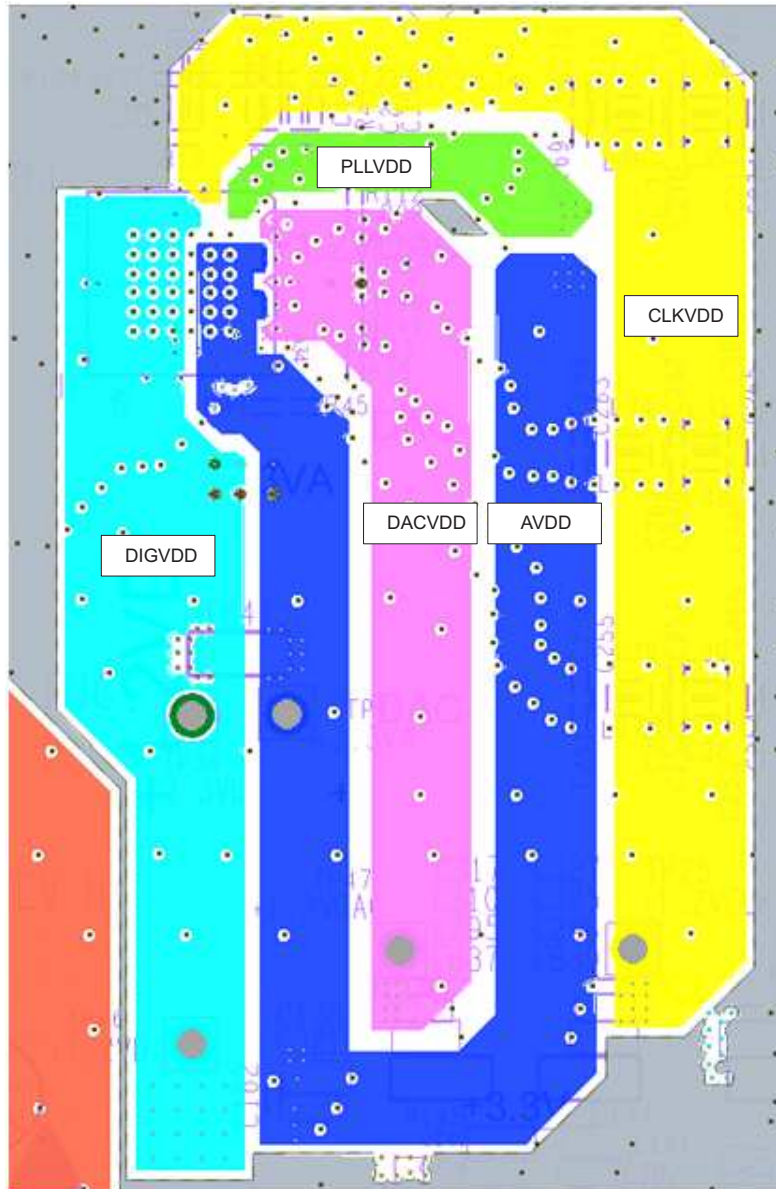
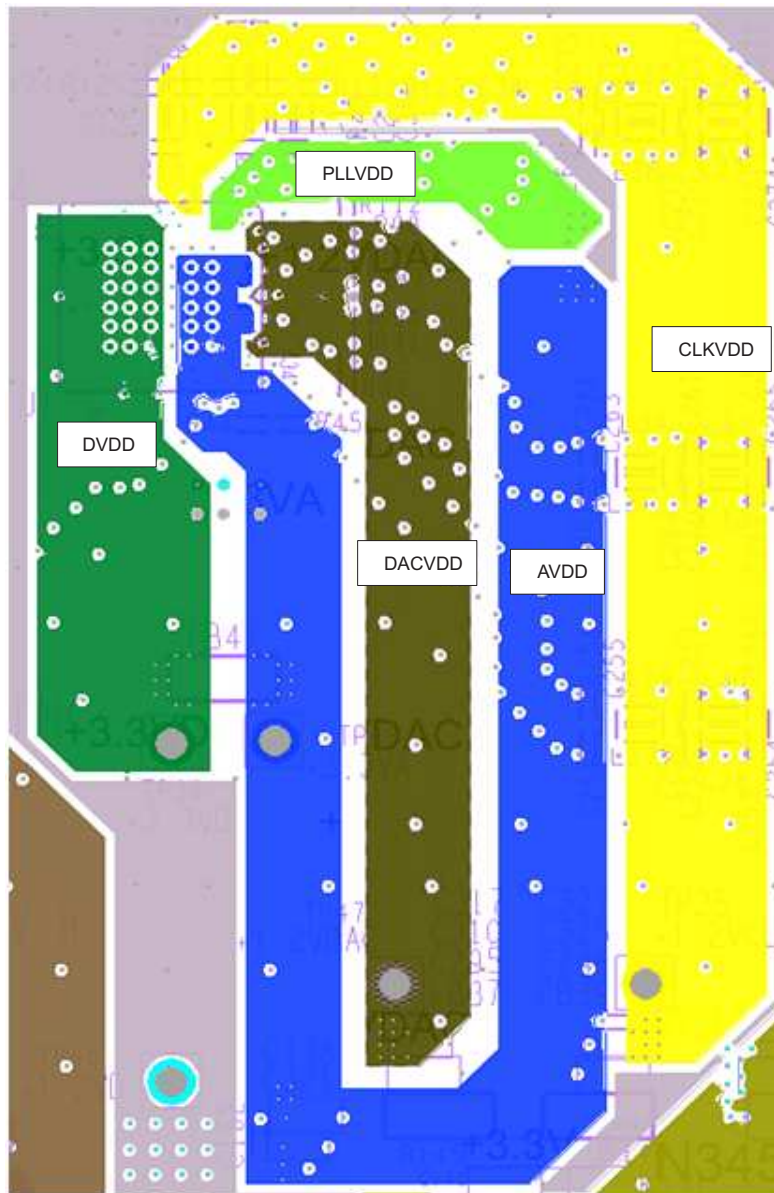

图 101. Third Layer of DAC3482 Layout Showing Power Layers. Layout Example from DAC3482EVM Rev H
图 102. Fourth Layer of DAC3482 Layout Showing Power Layers. Layout Example from DAC3482EVM Rev H
The following layout guidelines correspond to the layouts shown in 图 101 and 图 102.
2. As shown in 图 101 and 图 102, both layers three and four are designated for power supply planes. The DAC analog powers are all in the same layer to avoid coupling with each other, and the planes are copied from layer three to layer four for double the copper coverage area.